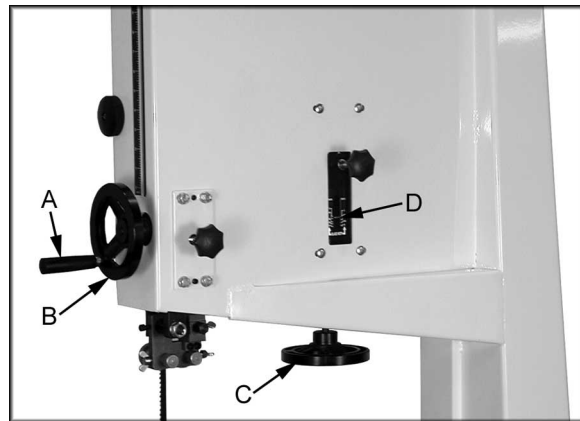

Figure 1
1. Attach the handle (A, Figure 1) to the handwheel (B, Figure 1).
2. Turn blade tension handwheel (C, Figure 1) counterclockwise to tension blade and clockwise to loosen the tension. A gauge on the upper wheel slide bracket (D, Figure 1) indicates the approximate tension according to the width of the blade. The JWBS-18X comes with a 3/4" blade so the tension should be set at 3/4".